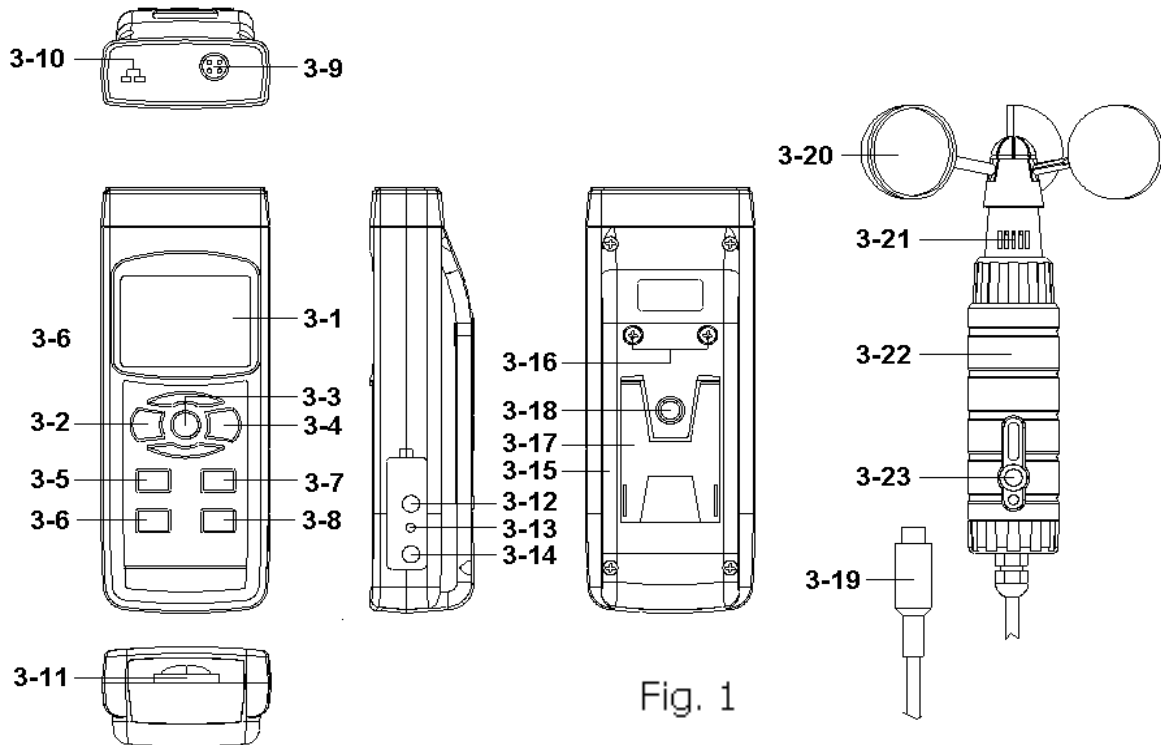

Fig. 1
( 3-2, Fig. 1 ) > 1.5 seconds continuously.
Pressing the " Function Button " ( 3-7, Fig. 1 )
just release the " Function Button " ( 3-7, Fig. 1 ), the
- b. Plug the " Probe Plug " ( 3-19, Fig. 1 ) into the " Probe Input Socket " ( 3-9, Fig. 1 ).
- c. Hold the " Probe Handle " ( 3-22, Fig. 1 ) by hand or fix the " Probe handle " to the " Tripod " via " Tripod Fix Nut " ( 3-23, Fig. 1 ), then the Display ( 3-1, Fig. 1 ) will show air velocity directly. At the same time, the lower Display will show the air temperature value.
- b. Not install the " Anemometer Probe Plug " ( 3-19, Fig. 1 ) into the " Probe Input Socket " ( 3-9, Fig. 1 )
- c. Plug the Thermocouple Temp. Probe ( Type K Temp. probe or Type J Temp. probe, optional ) into " Type K/J Probe Input Socket " ( 3-10, Fig. 1 )
During the measurement, press the " Hold Button " ( 3-3, Fig. 1 ) once will hold the measured value & the LCD will display a " HOLD " symbol.
- 1) The data record function records the maximum and minimum readings. Press the " REC Button " ( 3-4, Fig. 1 ) once to start the Data Record function and there will be a " REC " symbol on the display.
- a) Press the " REC Button " ( 3-4, Fig. 1 ) once, the " REC MAX " symbol along with the maximum value will appear on the display.
- b) Press the " REC Button " ( 3-4, Fig. 1 ) again, the " REC MIN " symbol along with the minimum value will appear on the display.
- c) Press the " REC Button " ( 3-4, Fig. 1 ) again, the the " MIN " symbol will be appeared, LCD only show the " REC " symbol, the meter start the Data Record function again.
- 3) To exit the memory record function, just press the " REC Button " ( 3-4, Fig. 1 ) > 1.5 seconds continuously. The display will revert to the current reading.
- 1) After power ON, the " LCD Backlight " will light automatically. During the measurement, press the " Backlight Button " ( 3-2, Fig. 1 ) once will turn OFF the " LCD Backlight ".
- 2) Press the " Backlight Button " ( 3-2, Fig.1 ) once again will turn ON the " LCD Backlight " again.
Prepare a " SD memory card " ( 1 G to 16 G, optional ), insert the SD card into the " SD card socket " ( 3-11, Fig. 1). The front panel of the SD card should face against the the down case.
Press the " LOG Button ( 3-8, Fig. 1 ) > 1.5 seconds continuously, the lower LCD will show the text of " Log " ( or show " Log " with the Temp. value alternately ), then " REC " symbol will flashing per sampling time, at the same time the measuring data along the time information will be saved into the memory circuit.
During execute the Datalogger function, if press the " LOG Button " ( 3-8, Fig. 1 ) once will pause the Datalogger function ( stop to save the measuring data into the memory circuit temporally ). In the same time the the " REC " symbol will stop flashing, the lower LCD will show the text of " Log " ( or show " Log " with the Temp. value alternately ).
*If press the " LOG Button " ( 3-8, Fig. 1 ) once again will execute the Datalogger again, the " REC " symbol will flashing.*
During execute the Datalogger function, press the " LOG Button ( 3-8, Fig. 1 ) > 1.5 seconds continuously again will finish the Datalogger function, the " Log " text will be disappeared and finish the Datalogger. function.
Press the " LOG Button ( 3-8, Fig. 1 ) > 1.5 second , the lower LCD will show the " Position no. " ( or show the Position no. with the Temp. value alternately ), then press the " LOG Button " ( 3-8, Fig. 1 ) once, the " REC " symbol will flashing once and Beeper will sound once, at the same time the measuring data along the time information will be saved into the memory circuit.